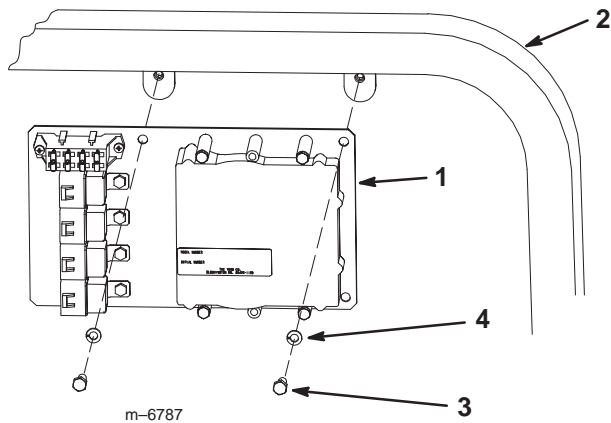
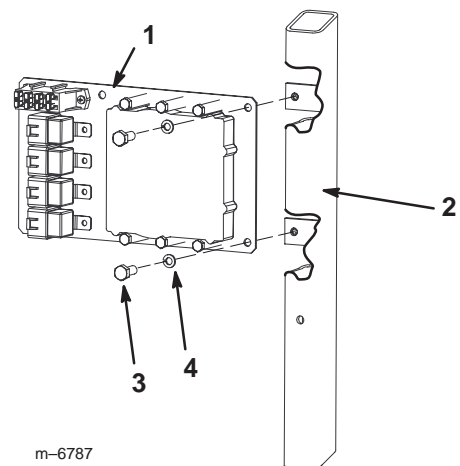

Figure 5
Figure 6
- Install the mount plate to the vehicle frame under the dash (Fig. 5 for the Multi Pro 1200 and 1250 and Fig. 6 for the Multi Pro 5600), using 2 bolts (5/16 x 3/4 inch) and 2 lock washers (5/16 inch).